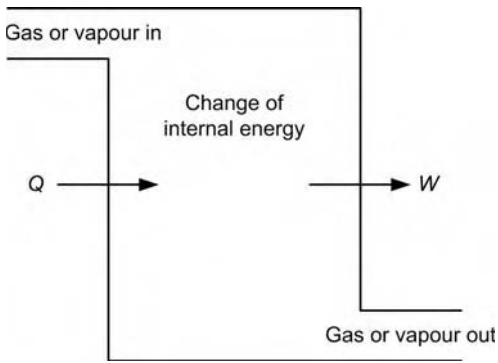

Figure 4.104 Energy exchange for a typical open system.
In this type of system there is an opening in the system boundary to allow a mass transfer of fluid to take place while the transient energies of heat (Q) and work (W) are being interchanged. The energy diagram for such a system is shown in Figure 4.104.